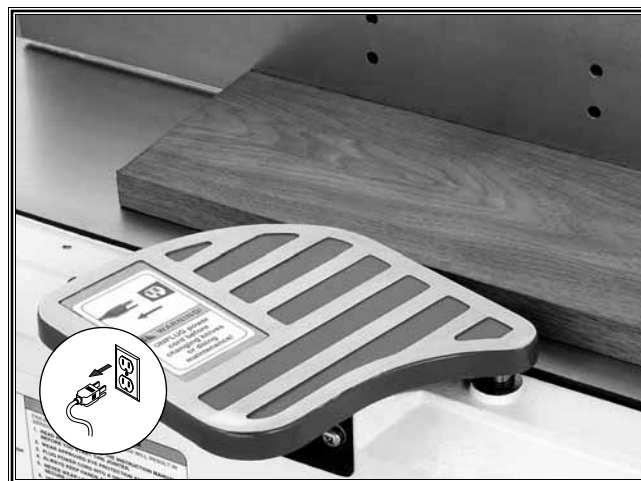

Figure 30. Blade guard in use.
- The blade guard should rotate enough to allow the wood to pass over the cutterhead (**Figure 30**).